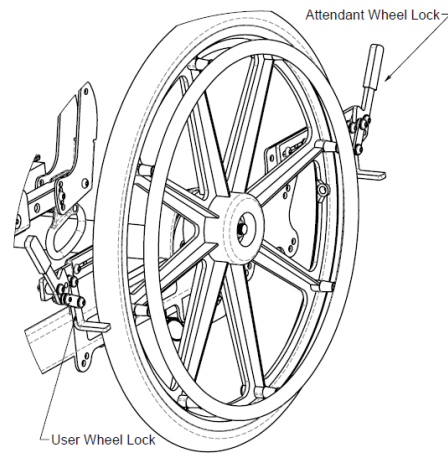

Figure 16.39: *User Wheel Locks and Attendant Wheel Locks*
4. To engage the attendant wheel lock in the User and Attendant Wheel Lock option (see Figure 16.39), follow the step 3 instructions. To engage the user wheel lock in the User and Attendant Wheel Lock option (see Figure 16.39), follow the instructions corresponding to the user wheel lock type (ie. Push to Lock or Pull to Lock).